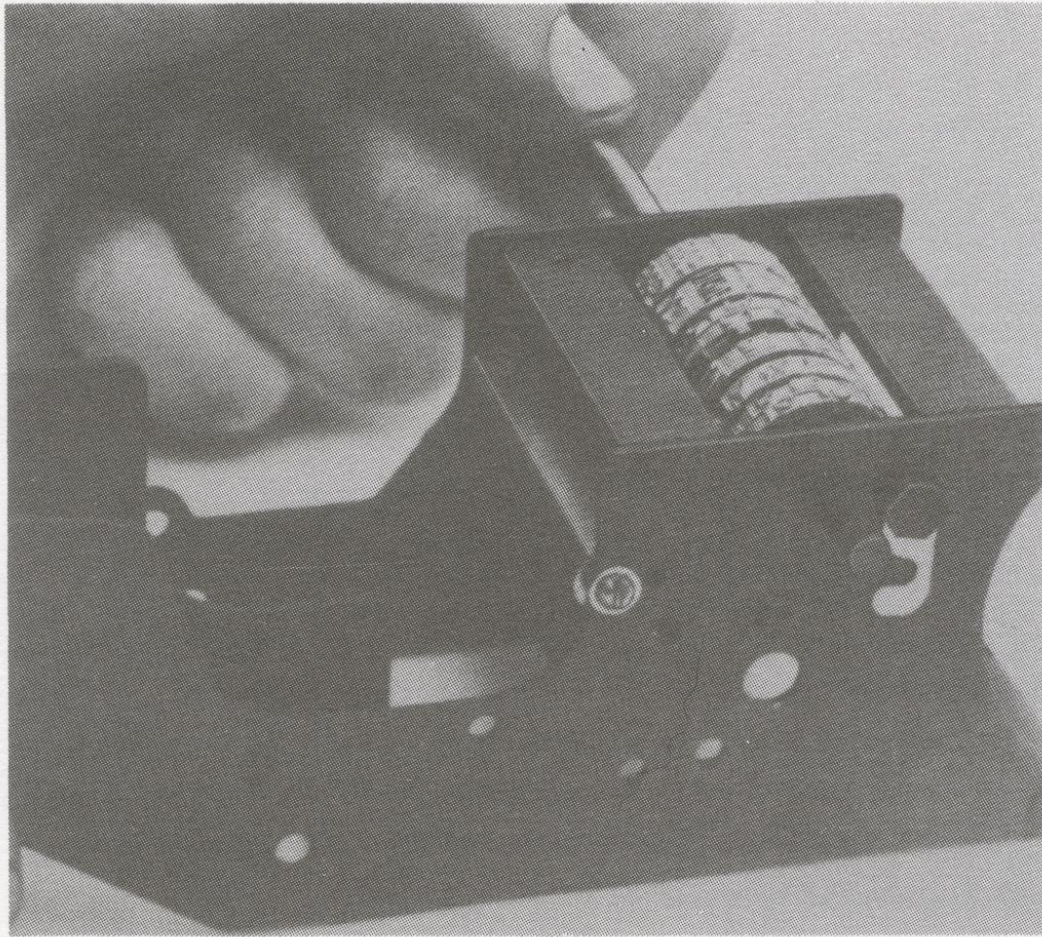

Figure 20
- Use an extra wheel shaft and push the existing one through the side of the frame *opposite* the retainer (**figure 20**).